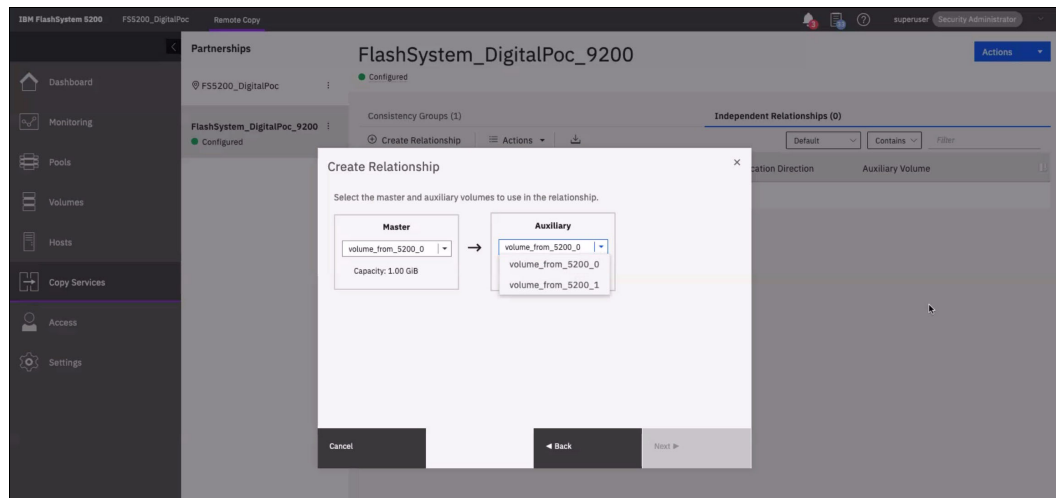

Figure 8-27 Choosing master and auxiliary volumes
4. Select the master and auxiliary volumes in scope for the migration, as shown in Figure 8-27.